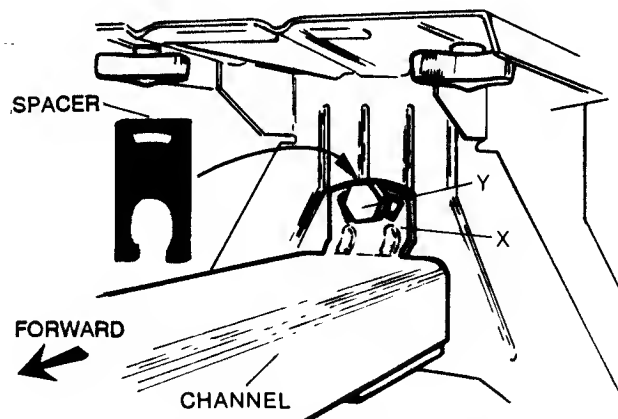
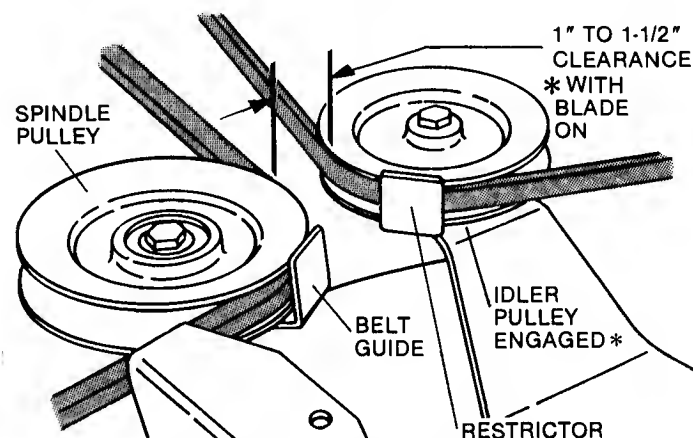

FIG. 8 - BELT ADJUSTMENT
FIG. 9 - BELT TENSION
With the mower deck in the #5 height position and the blade in the ON position, check the distance between the inside surfaces of the belt as shown in FIG. 9. The belt tension is adjusted by changing the "distance" between the front axle and the rear case. Remove the shoulder bolt (Y) (with the two metal spacers) from the main channel tab (X) and pull the front assembly **FORWARD**, increasing the belt tension until the correct amount is achieved. Then remove one or more spacers (as needed) from the hardware bag and align the spacer(s) behind main channel tab (X) and over the tube below it. Insert the shoulder bolt (without one or both of the metal spacers) through the matching holes in spacer(s) and tab (X), and screw it into the front of the rear case - securely tighten! Refer to FIG. 8.
If belt becomes frayed, cracked, or worn, replace as follows: Remove the BELT COVER, then cut and remove the old belt. To install new belt, close fuel cap (10-C) valve. Stand mower on REAR BUMPER (14-C), shift into NEU. position, work belt between discs, shift into #5 speed and push belt over edge of engine drive disc. Work into the groove of the drive disc, then connect other end to pulleys on mower deck as follows: Loosen or remove the idler pulley, loop the belt around spindle pulley as shown in FIG. 9 and work belt between restrictor and idler pulley. Make sure locking tab on restrictor is engaged in idler arm before securing idler arm nut and bolt. Check and adjust belt tension as needed before reinstalling BELT COVER.